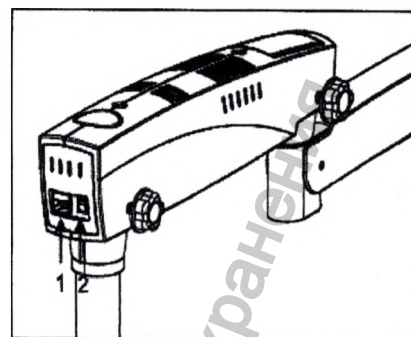

Fig. 15
8.1 Power switch control ON/OFF (on Fig. 15) is situated under rotary arm. In 'ON' position, green LED switches on and cooling fan is launched. Before switching on the microscope, adjust light control device at the minimal level.
Light control device is situated in front of the suspended arm. With the help of light control device via field lightning can be adjusted. See figure 15.
This knob helps to lock movements of the rotary arm, lock the position after initial focusing of the interest range by means of clockwise rotation of the knob. See fig. 15.
This knob locks suspended arm movement in any positional suitable for you by means of clockwise rotation of the knob. See fig. 15.